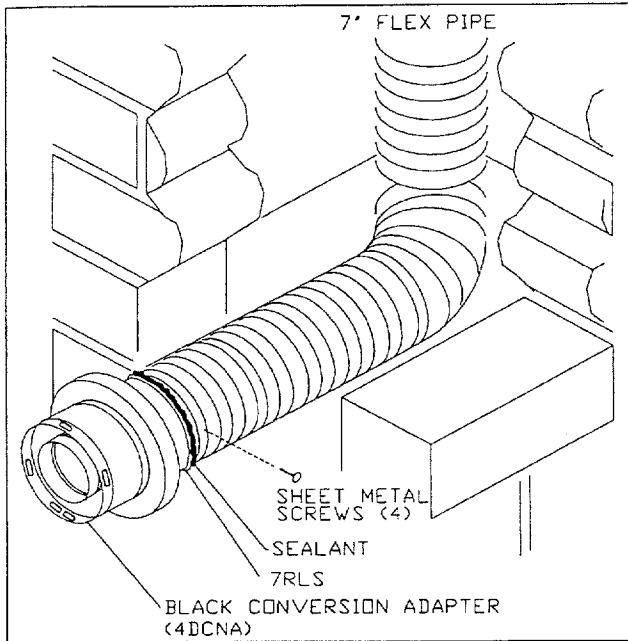

FIG 20
25. --Slide the black Face Plate onto the Conversion Adapter and fasten it to the flat part (ledge) of the Adapter w/ sheet metal screws. See Figure 20.